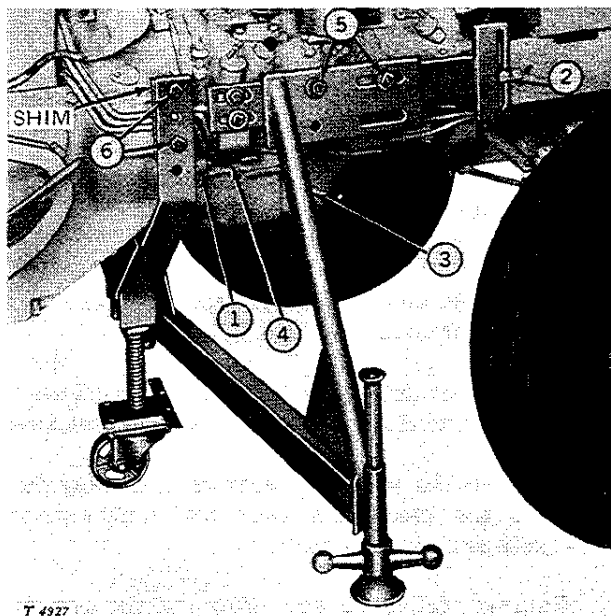

Fig. 20-10-5—Separating Stands Installed
Using Figure 20-10-5, install separating stands as follows:
6. Place rear end stand in position. Use shims (Fig. 20-10-5). Bolt in position and adjust caster to the floor.